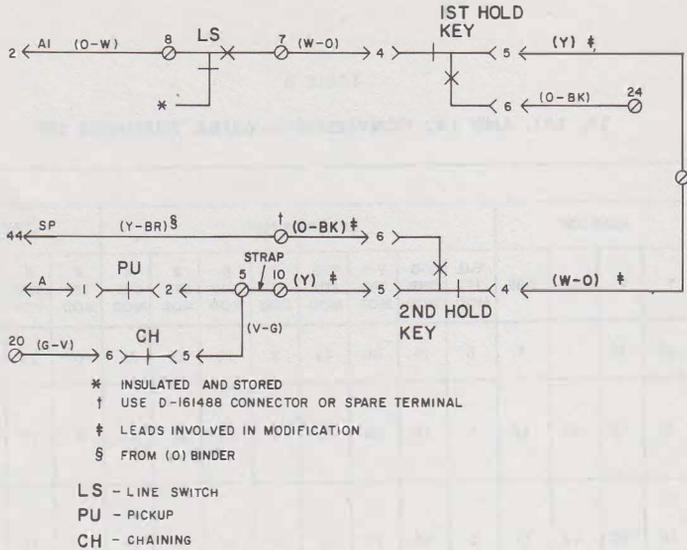

Fig. 4—Modification for Priority Hold
- (4) Rearrange wiring per Fig. 4.